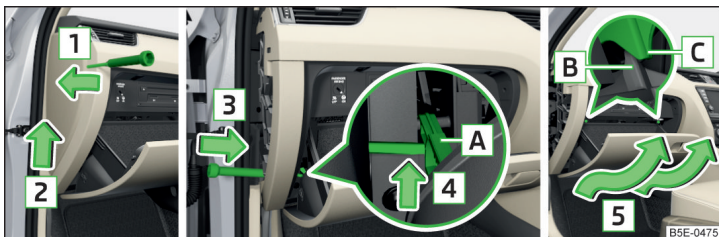

Fig. 220 Storage compartment on the front passenger's side: RHD
- › Insert a screwdriver under the side cover » Fig. 220.
- › Move the stop buffer **[B]** of the storage compartment behind the brackets **[C]** » Fig. 220.